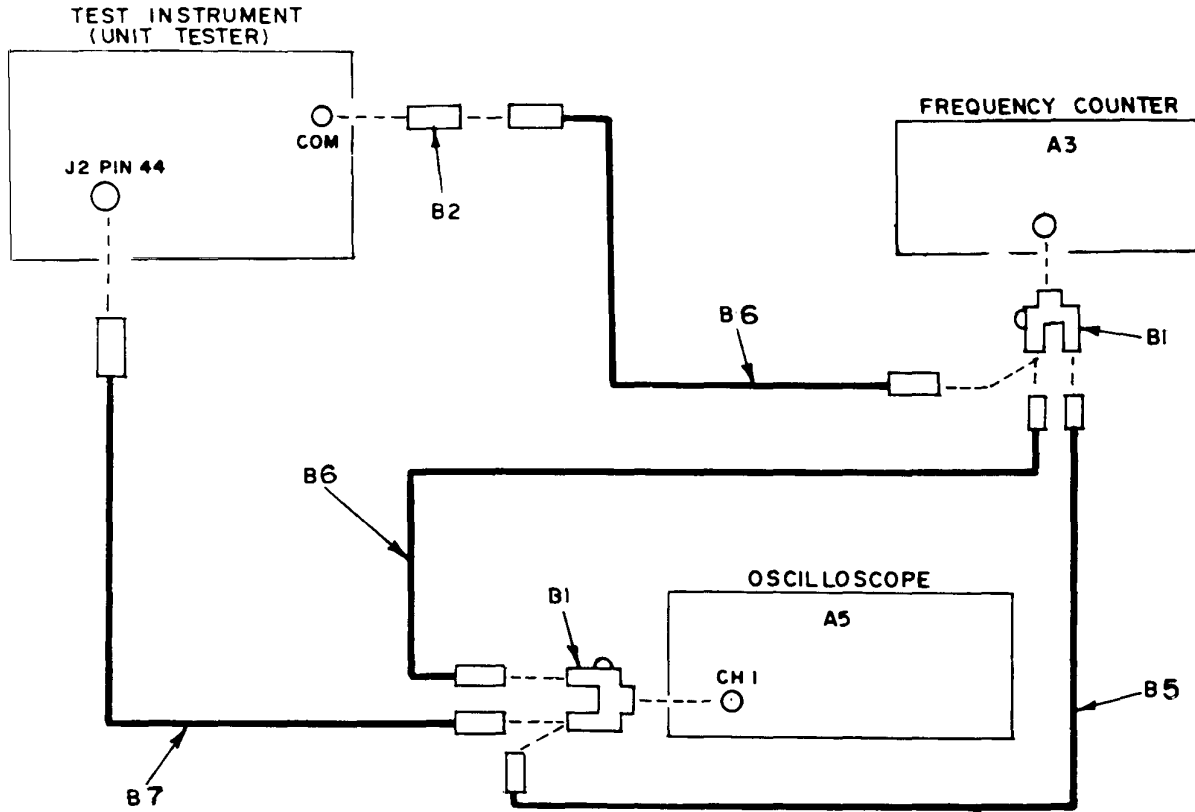

Figure 6. Display control - equipment setup.
(1) Connect equipment as shown in figure 6. Do not disconnect equipment connected in figure 1.
(2) Set DISPLAY UPDATE switch to ON.